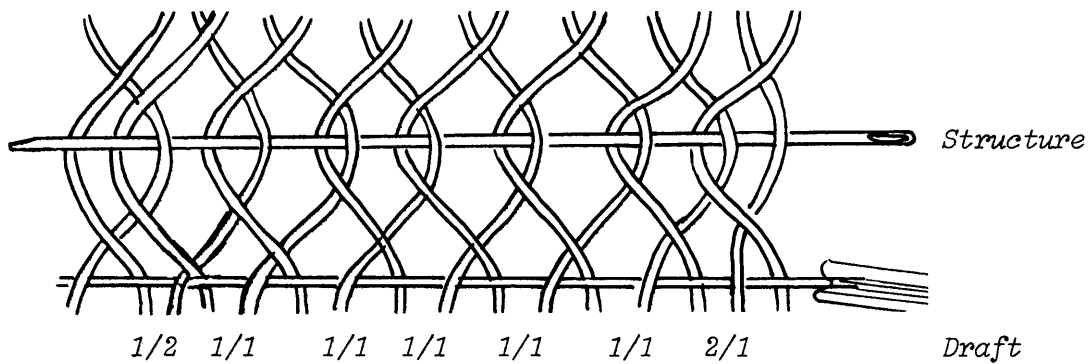

Fig. 4 *Antique Mexican Singles*
3. Mexican Singles (illustrated in Fig. 4).